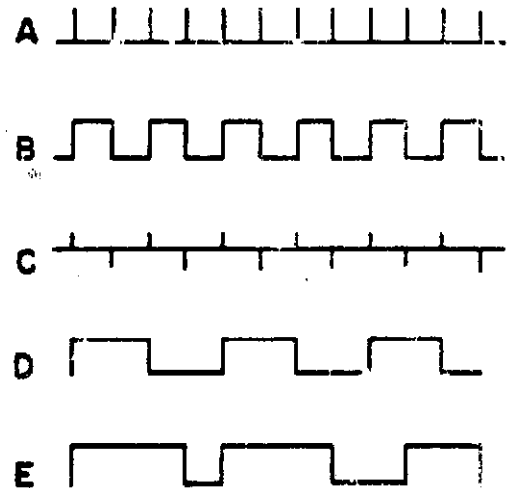

FIG. 2
The Key, either DOT or DASH, starts the blocking oscillator running at a frequency determined by the setting of the SPEED control potentiometer. The output of the blocking oscillator is a series of pulses (A). See Fig. 2. These pulses feed flip flop No. 1, which generates a DOT and a space (B) which goes into a summing circuit and then to the REED Relay Driver (E) that operates the relay at the keying rate. When it is the DASH paddle that is operated, the dot pulses are shaped and inserted into a second flip flop (D) which operates at half the frequency of the dot pulses. Its output, which is a pulse twice the length of the dot pulse, is passed through the gate which is opened by the dash paddle and is added to the DOT output in the summing circuit. The relay driver, in addition to operating the REED Relay, also operates an audio oscillator from its collector to provide the keyed audio outputs for monitoring in the mixer, and for insertion into the normal microphone input circuit of an AM or SSB transmitter. Both spacing ratios, and dot to dash ratios, are fixed for all speeds of operation. There is no waiting to "catch" the oscillator since the oscillator is always off until either paddle is pressed. Both DOTS and DASHES are self-completing and a dash may be inserted into a series of dots at any time by pressing the DASH PADDLE. The speed control knob carries an approximate speed calibration for operator convenience.